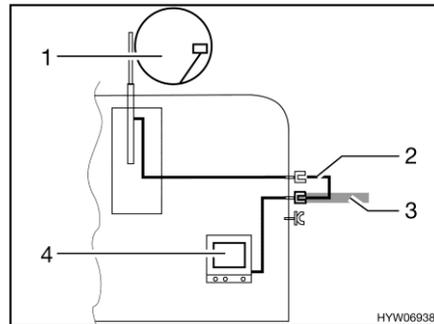

Fig. 196 TV inside the vehicle
- TV inside the vehicle (Fig. 196,4): Connection to roof antenna (Fig. 196,1) with connection cable (Fig. 196,2)
- TV inside the vehicle (Fig. 196,4): Connection to external antenna (Fig. 196,3)